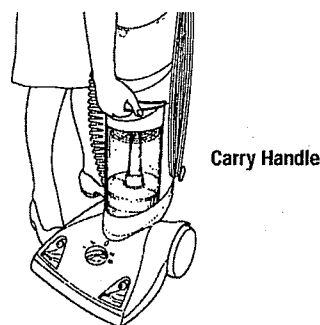

Figure 7
2. Locate the Carry Handle. It's the rubber, recessed area right beneath the Tool Storage Compartment. (See Figure 7.)